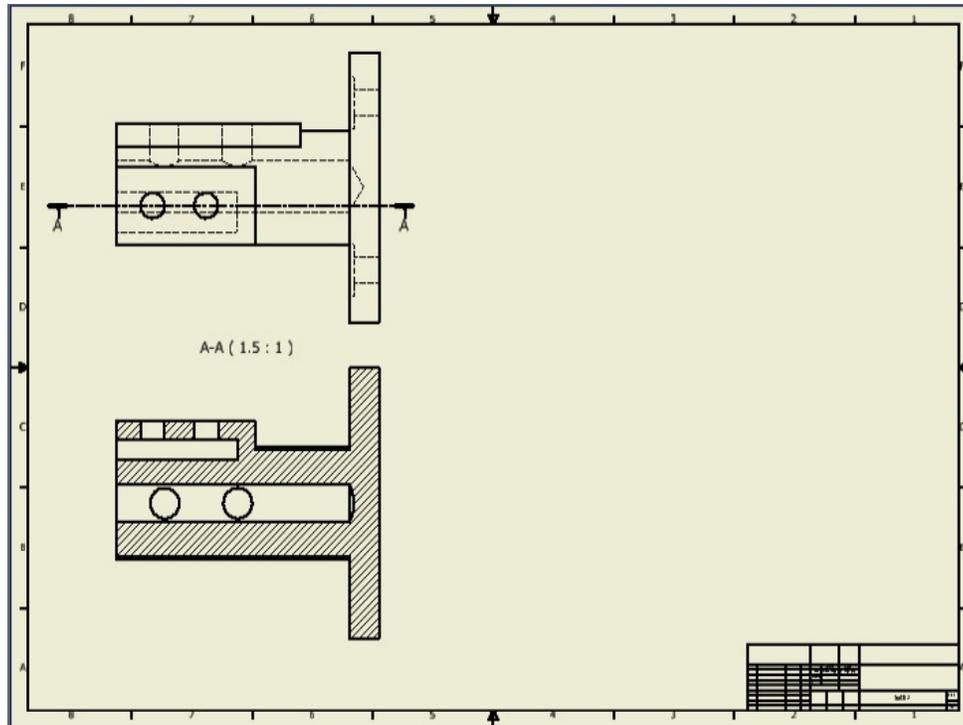

Figure 11-49 Drawing sheet with the base and section views
8. Specify the location of the section view below the base view, see Figure 11-49. The **Section View** dialog box is automatically closed when you specify the location of the section view.